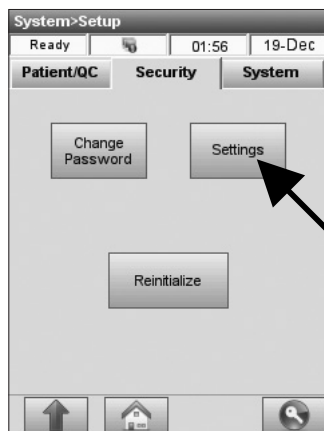

Fig. 3-51 Settings
2. On the **<Security>** tab in the **<Setup>** menu, press **<Settings>** (Fig. 3-51) to access the **<Settings>** menu.